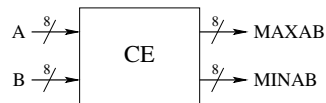

Figure 3: Interface specification of the CE module
TODO (3 points): Design, in plain synthesizable VHDL (entity and architecture), a simple compare and exchange module (CE). The interface of the CE module is specified in figure 3 and table 1.